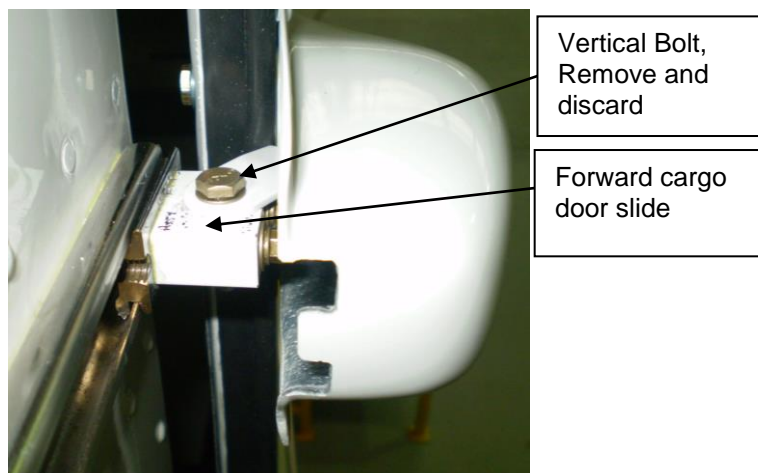

Figure 1: Forward Cargo Door Slide with door swung open.
1. Open the door handle so that the door swings out to gain access to the Forward Cargo Door Slide Assembly, see Figure 1 below.